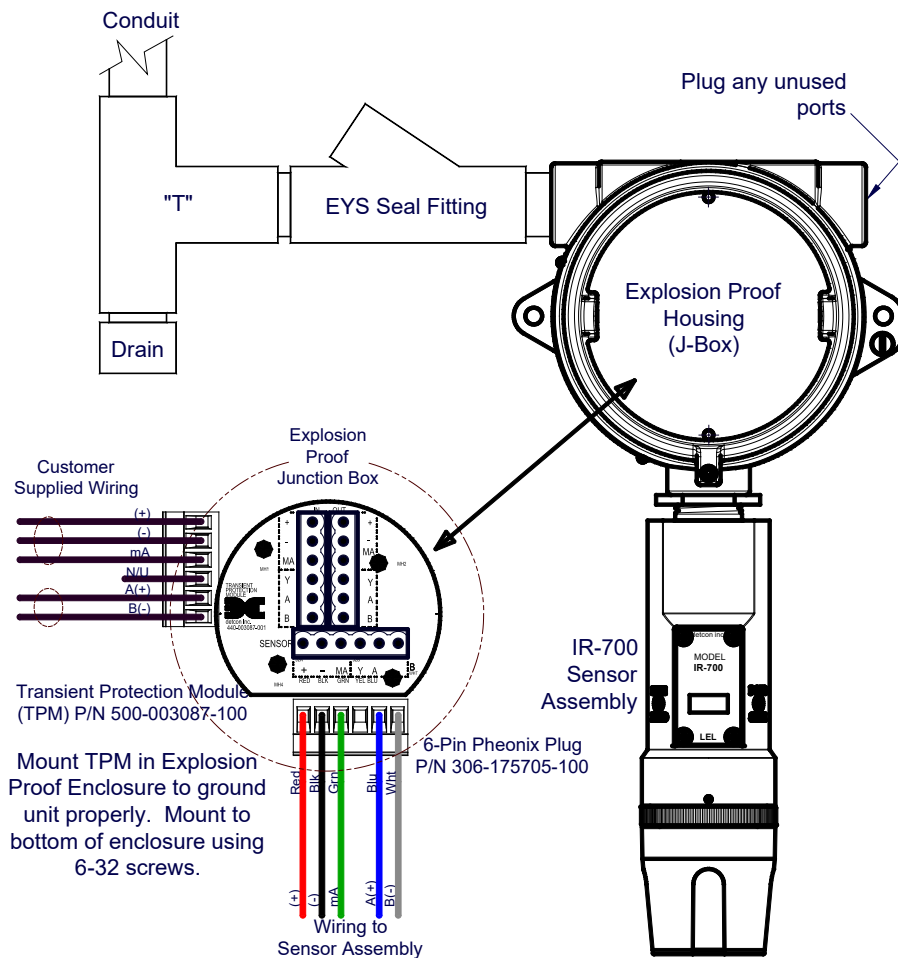
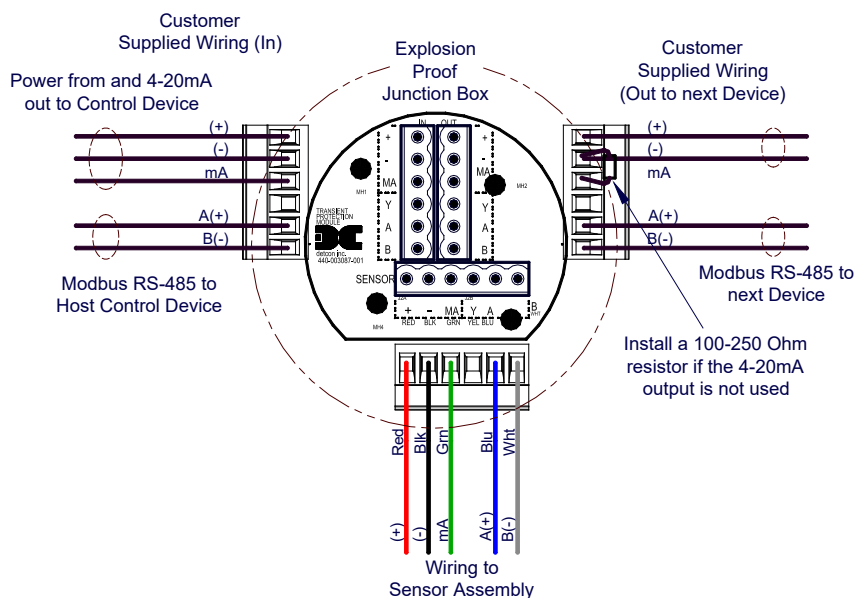

Figure 13 Typical Installation
Figure 14 Sensor Wire Connections
NOTE: In all installations the gas sensor should point straight down. Refer to Figure 13. Improper sensor orientation may result in false readings and permanent sensor damage.
Proper electrical installation of the gas sensor is critical for conformance to Electrical Codes and to avoid damage due to water leakage. Refer to Figure 13 and Figure 14 for proper electrical installation.
NOTE: If a conduit run exits the secondary port, repeat the installation technique shown in Figure 13.
In Figure 13, the drain allows H₂O condensation inside the conduit run to safely drain away from the sensor assembly. The electrical seal fitting is required to meet the National Electrical Code per NEC Article 500-3d (or Canadian Electrical Code Handbook Part 1 Section 18-154). Requirements for locations of electrical seals are covered under NEC Article 501-5. Electrical seals also act as a secondary seal to prevent water from entering the wiring terminal enclosure. However, they are not designed to provide an absolute water-tight seal, especially when used in the vertical orientation.
NOTE: For products utilizing the aluminum junction box option, the conduit seal shall be placed at the entry to the junction box (see Figure 13 as an example). For products utilizing the stainless steel junction box option, the conduit seal shall be placed within 18" of the enclosure. Crouse Hinds type EYS2, EYD2 or equivalent are suitable for this purpose.
- b) Observing correct polarity, terminate the 3-conductor 4-20mA field wiring (+, -, mA) to the sensor assembly wiring in accordance with the detail shown in Figure 14. If the 4-20mA output is not used, the green wire from the sensor must be connected to the (-) terminal on the Transient Protection Module.
- c) If applicable, terminate the RS-485 serial wiring as shown in Figure 14. Use the second plug (Out) as termination point on the customer side to facilitate a continuous RS-485 serial loop